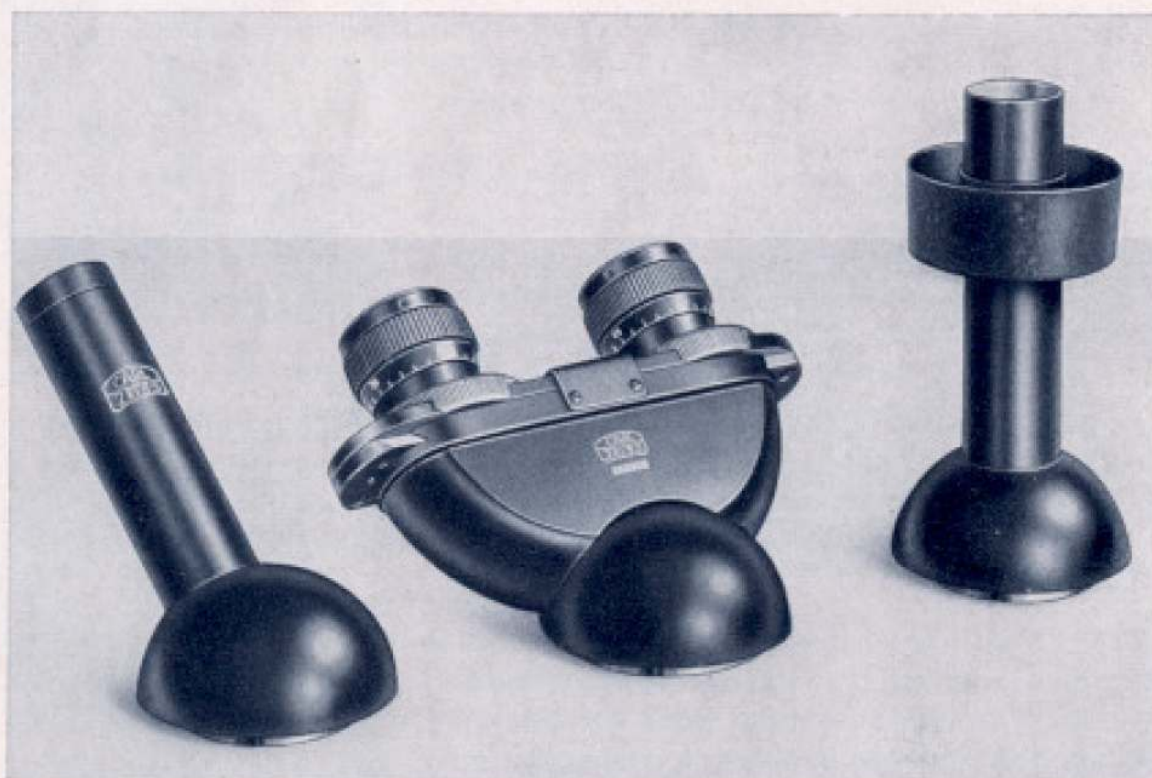

Fig. 13: Inclined monocular tube (1), inclined binocular tube (2), straight tube with light-excluding collar
An inclined monocular tube (1) is available for monocular observation (Fig. 13), for photomicrography and binocular observation an inclined binocular photo tube (3) (Fig. 12).